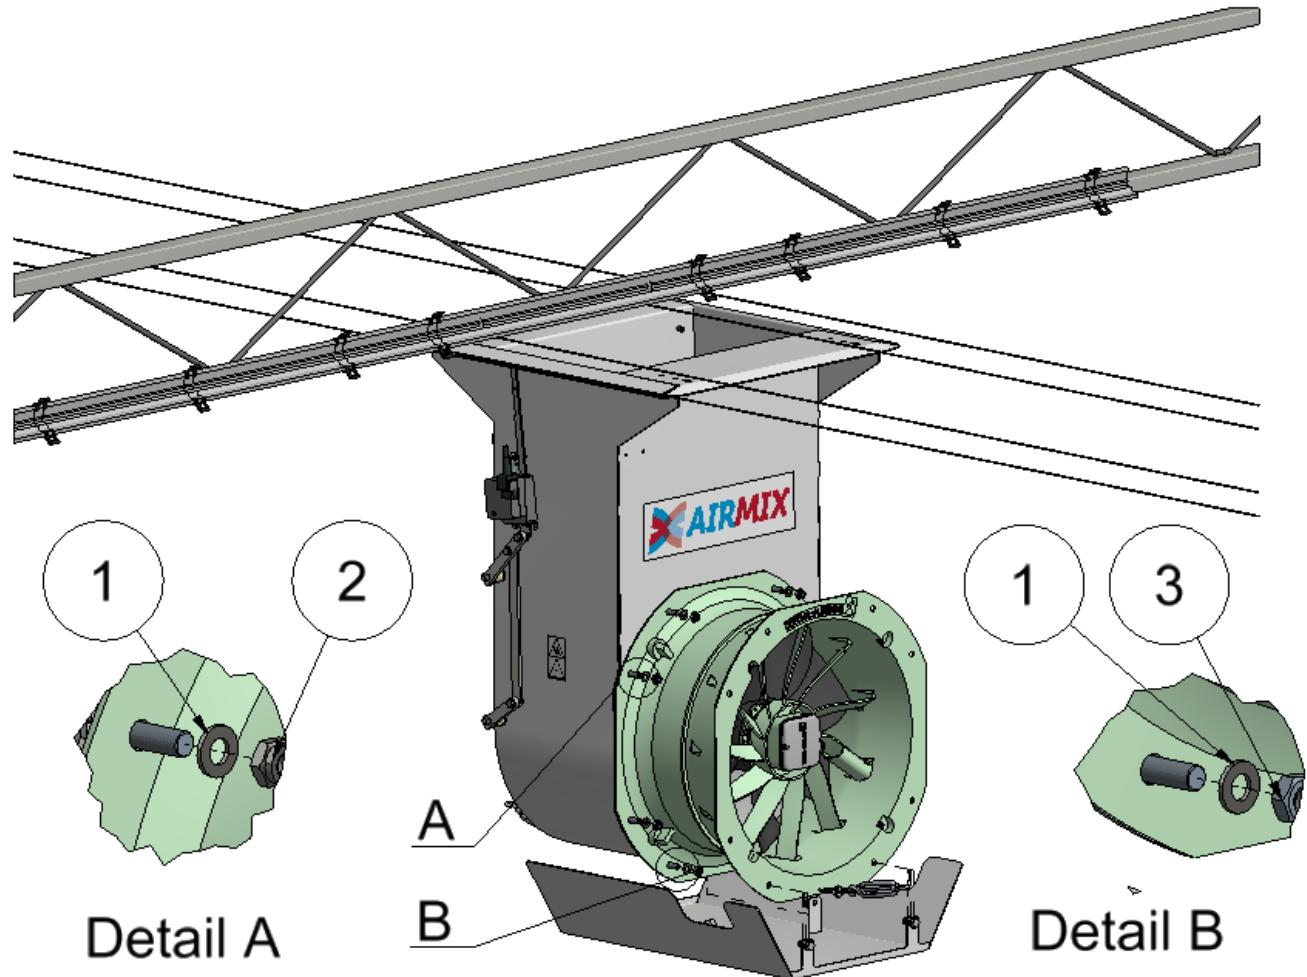

Figure 5 Attaching the fan to the Airmix
- Assembly (see Figure 5);
- Attach the fan and the condensation collector to the aluminum Airmix housing by inserting it over the protruding M10 threads. Then secure the fan with the supplied washers (1) and lock nuts (2);
- You can use the two standard nuts (3) at detail B. At this location it is more difficult to tighten the self-locking nuts because of the condensation collector.